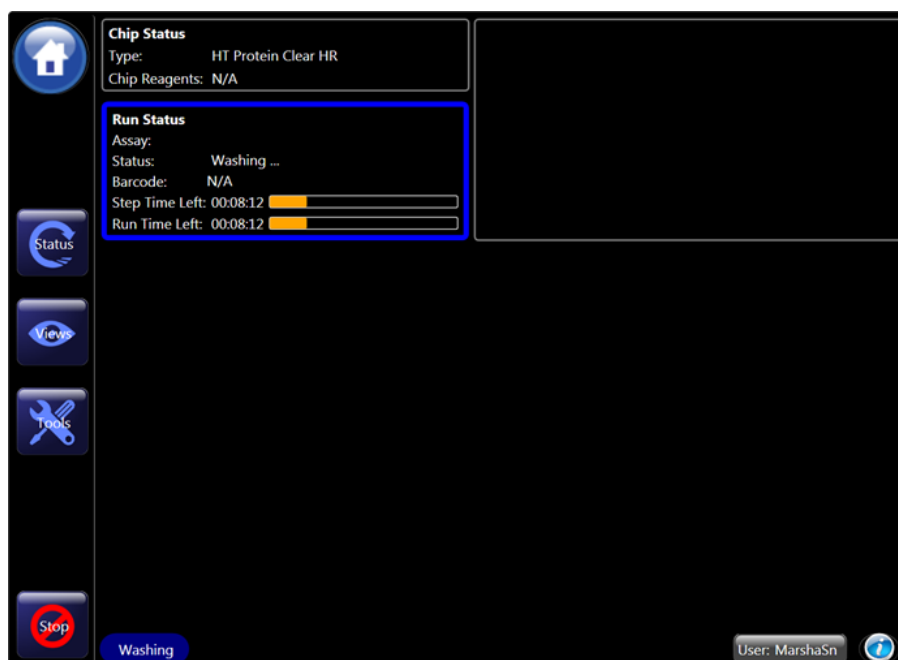

Figure 19. Wash screen
- 7 Touch the *Wash* button on the *Home* screen (Figure 5 on page 13). The wash cycle begins (Figure 19).